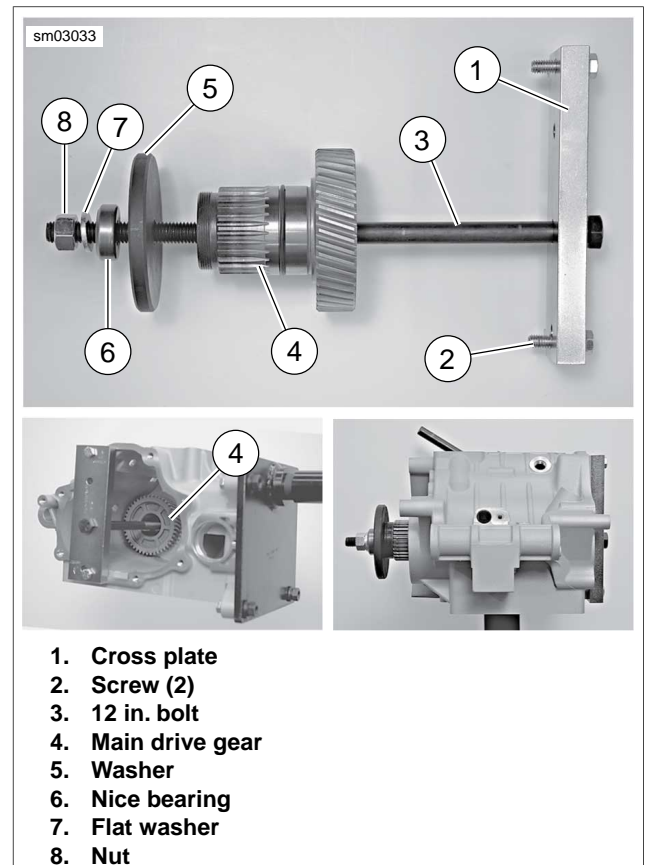

Figure 7-33. Removing Main Drive Gear
2. See Figure 7-33. Place CROSS PLATE (Part No. HD-35316-3A) (1) on right side of transmission case as shown, and secure with two screws (2). Position cross plate so that large bolt hole in cross plate is lined up with center of main drive gear (4).
3. Insert 12 IN. BOLT (Part No. HD-35316-5) (3) through cross plate and main drive gear.
4. At left side of transmission case, place WASHER (Part No. HD-35316-7), NICE BEARING (Part No. RS-25100-200) (6), flat washer (7) and nut (8) over end of bolt. Tighten nut until main drive gear is free.